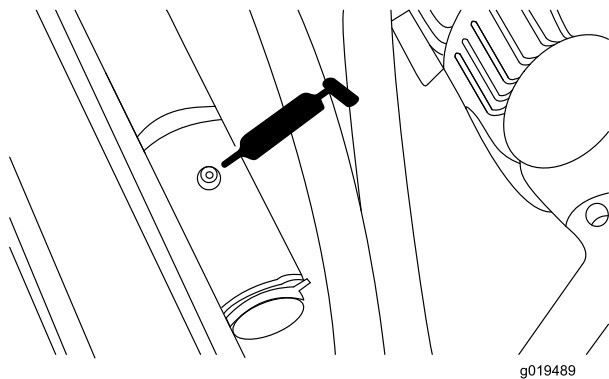

Figure 45
- Rear lift cylinder pivot (2) (Figure 45).